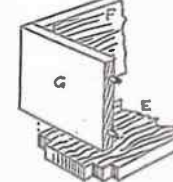

Fig. 6
The floors of the end boxes are formed as (E) Fig. 6, being let into the fronts and into the back (C). Fronts (G) are dowelled into the legs as shown. The back edges of (E) are glued to the rails (A), angle fillets being put along inside the box to further strengthen the joints. The sides (F) are glued and screwed to (E) and the angle fillet added as seen in Fig. 6.